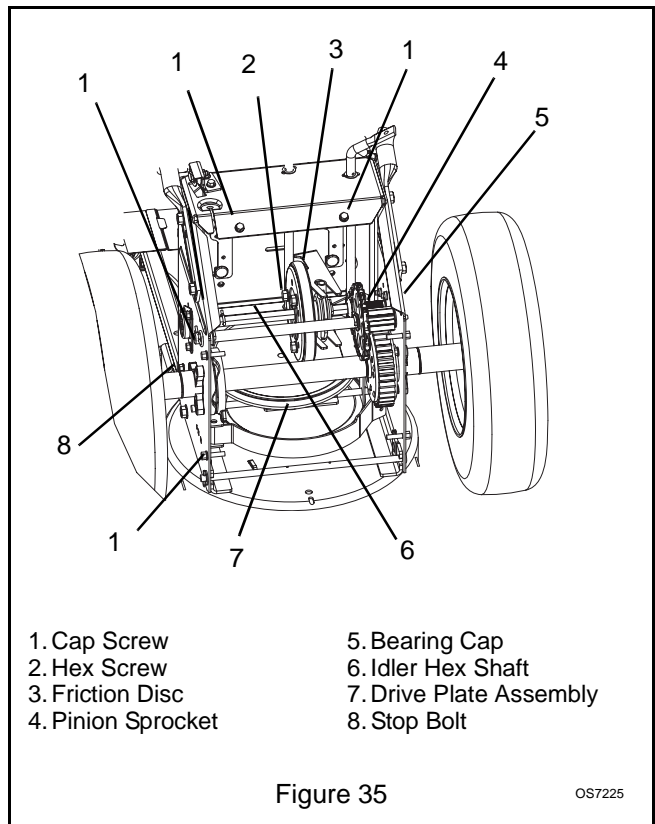

Figure 35
2. To gain belt clearance, back out the stop bolt from the frame until the drive plate assembly can swing past it (Figure 35).